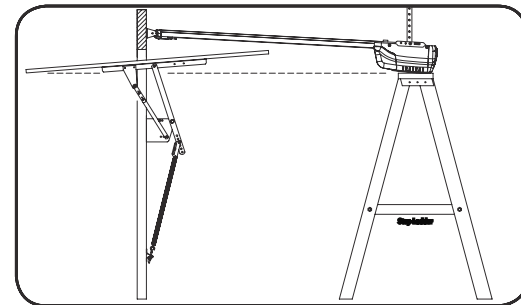

Fig. 16
- Rest the opener on the top edge of the door with end of the C-Rail against the wall (Fig. 16).
- Support the powerhead level with the lowest point of the open door (Fig. 16).